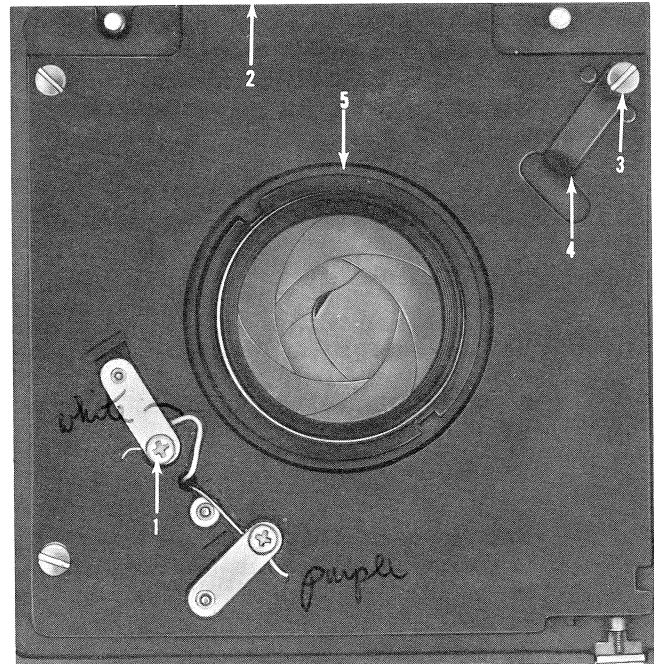

Figure 11.
d. Spanner wrench (Figure 3) to remove retaining nut (5, Figure 11).
t. On Model 2A, position contact plate assembly (2, Figure 11) on rear housing, bringing wire leads thru hole in plate assembly. On Model 2B, position cover assembly (1, Figure 25) on rear housing.
u. Assemble retaining nut (5, Figure 11). Use Spanner wrench (Figure 3) to tighten.
v. On Model 2A, locate rangefinder cam retainer (4, Figure 11) as shown. Insert three screws (3) and tighten. On Model 2B, insert three screws (2, Figure 25) and tighten.
w. On Model 2A, position two wire leads under two contacts and secure with two screws (1, Figure 11).